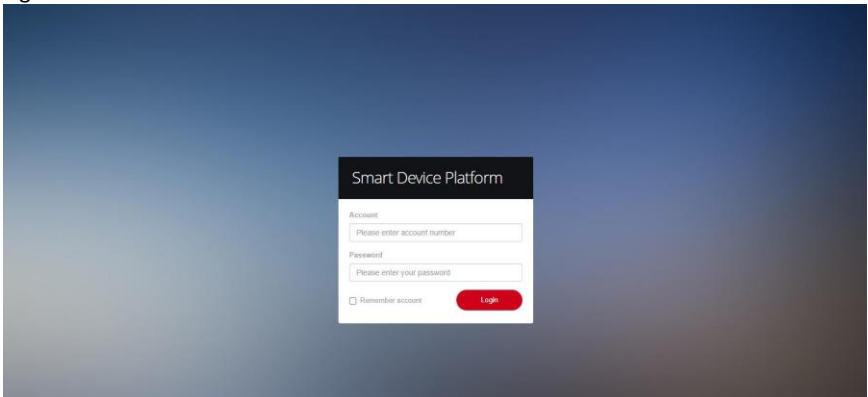

Figure 5-2
Step 3: In SDP2000 server control panel click "  " to enter the login interface,as shown in Figure 5-2 below.